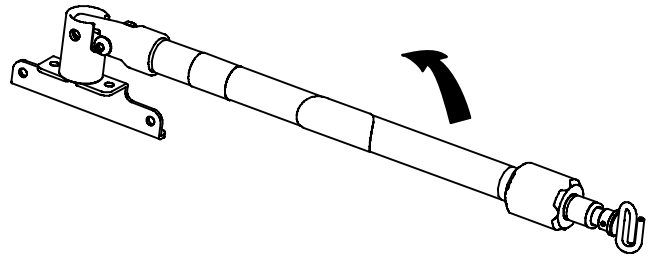

Figure 27 – Three-stage IV pole storage position
1. Lift and pivot the IV pole from the storage position. Push down until the IV pole locks into the receptacle (A).
2. To raise the height of the IV pole, turn the locking collar (B) counterclockwise and pull up on the telescoping section (C). Raise the IV pole to the desired height.
3. Turn the locking collar (B) clockwise to lock the telescoping section (C) in place.
4. For a higher IV pole, pull up on the slide section (D) until the spring clip (E) connects.
5. Hang IV bags on the IV hook (F).
6. To lower the IV pole, push in on the spring clip (E) and slide section (D) down into the telescoping section (C). Turn the locking collar (B) counterclockwise and slide the telescoping section (C) into the bottom tube.
7. Turn the locking collar (B) clockwise to tighten.
8. Lift up and pivot the IV pole down into the storage position (Figure 27).